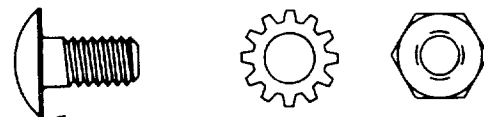

Fig. 14 - Truss Head Bolt, Lockwasher, Hex Nut
3. Most parts of your radial arm saw will be fastened together using truss head bolts, lockwashers, and hex nuts of the sizes shown. (Figure 14) When different sizes are needed, the instructions will include a sketch to help you locate the correct size.